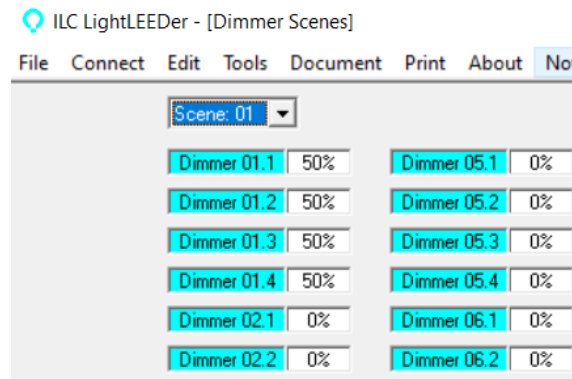

Figure 3 – Dimmer Scenes
3. Set the dimmer levels per output for each scene using “Dimmer Scenes” under “Tools”. Refer to Figure 3.